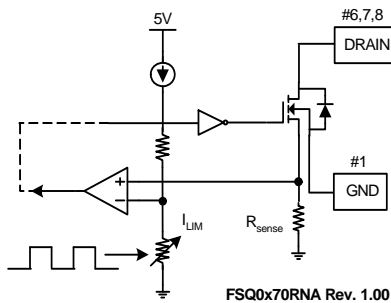

Figure 16. Soft-Start Function
5. Soft-Start: The power switch has an internal soft-start circuit that slowly increases the SenseFET current after start-up, as shown in Figure 16. The typical soft-start time is 10ms, where progressive increments of the SenseFET current are allowed during the start-up phase. The pulse width to the power switching device is progressively increased to establish the correct working conditions for transformers, inductors, and capacitors. The voltage on the output capacitors is progressively increased to smoothly establish the required output voltage. This also helps prevent transformer saturation and reduces the stress on the secondary diode during start-up.